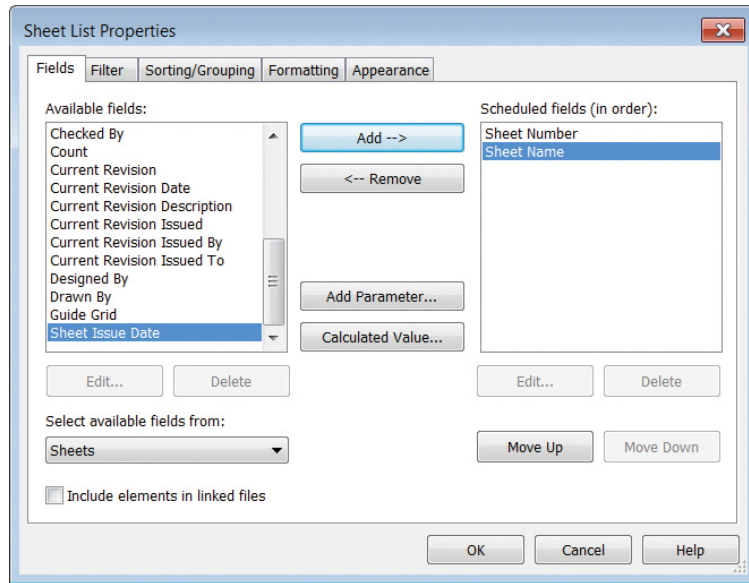

FIGURE 12.12 Creating the sheet list
1. Select the Sheet List tool from the Schedules flyout. The Sheet List Properties dialog box appears, starting with the Fields tab. Add the Sheet Number and Sheet Name fields from the list on the left to the column on the right (Figure 12.12).